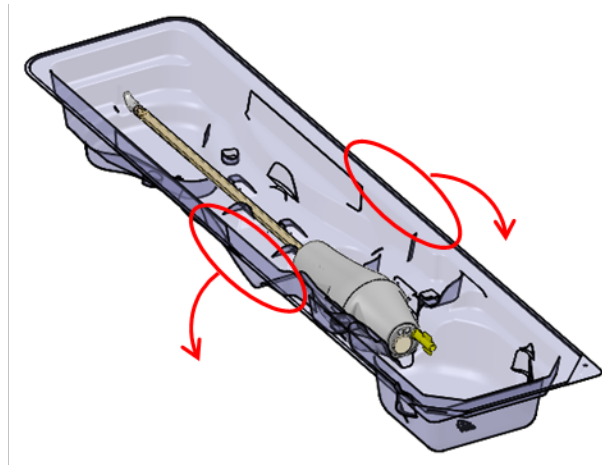

Figure 21: Releasing the UA from the packaging tray
3. **MRI Technologist:** While holding the UA packaging tray by the long edges of its perimeter, flex the tray to release the UA from its snap features (*Figure 21*).